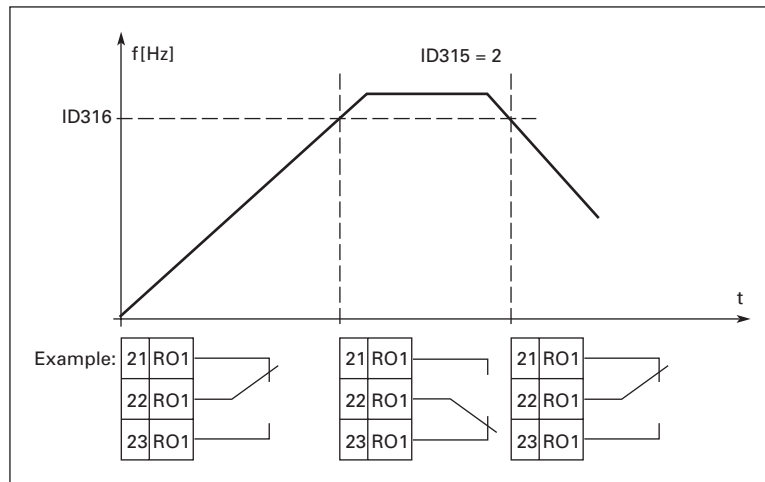

Figure 3-10: Output Frequency Supervision
Selects the frequency value supervised by ID315. See **Figure 3-10**.
- Selects the frequency value supervised by ID346. See **Figure 3-10**.